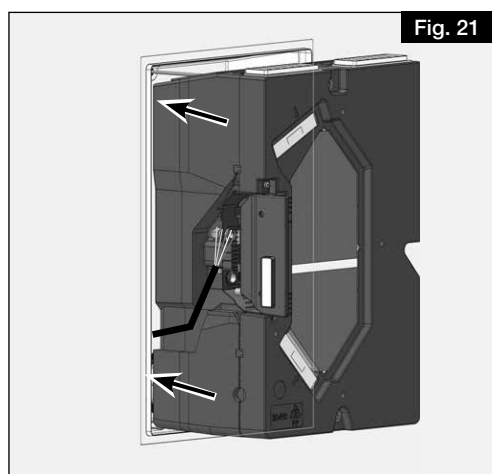

Fig. 21
4. Push the unit halfway into the wall installation element so that the mains cable can be connected (see Fig. 21).